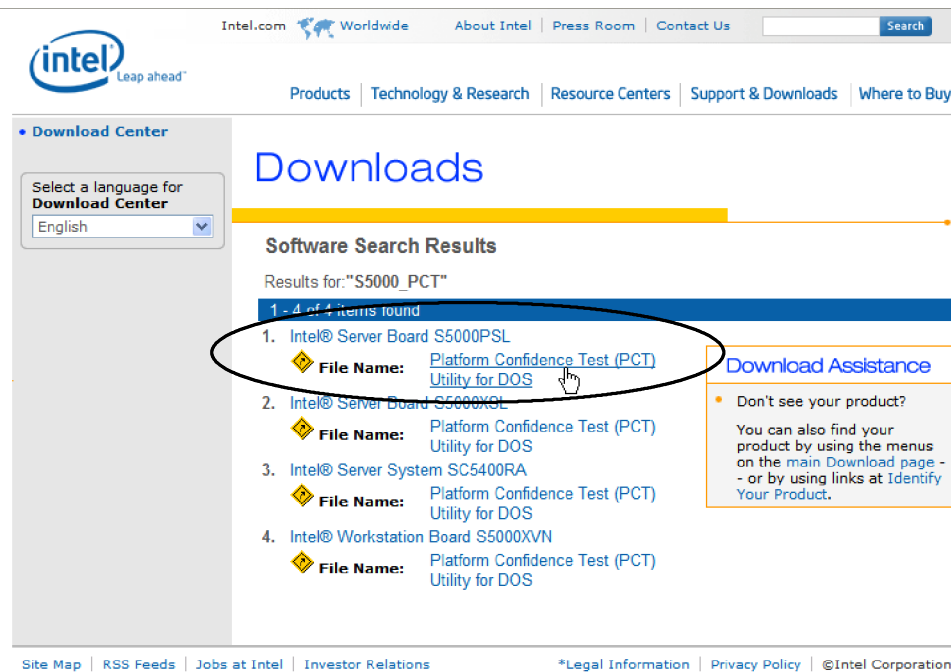

Figure 1: Download the Platform Confidence Test Utility for DOS
3. Download the Platform Confidence Test by clicking on one of the **Platform Confidence Test (PCT) Utility for DOS** links as shown in Figure 1, and then click the **Download** link in the following dialog window. Save the file to a convenient directory.